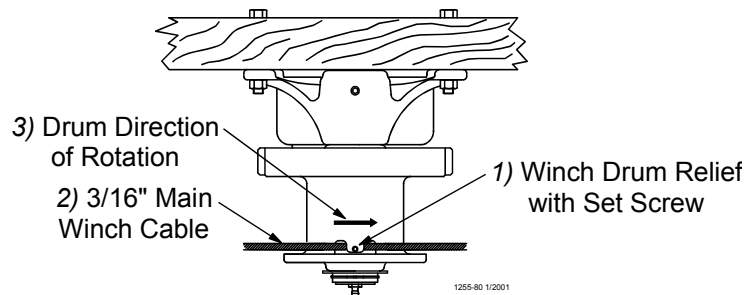

Figure 10. Attaching the Cable to the Power Winch
4. Route the cable through the Winch Drum Relief located near the bottom of the drum. Tighten the set screw to anchor the cable to the drum. See figure 10. **“Figure 10. Attaching the Cable to the Power Winch” on page 10**